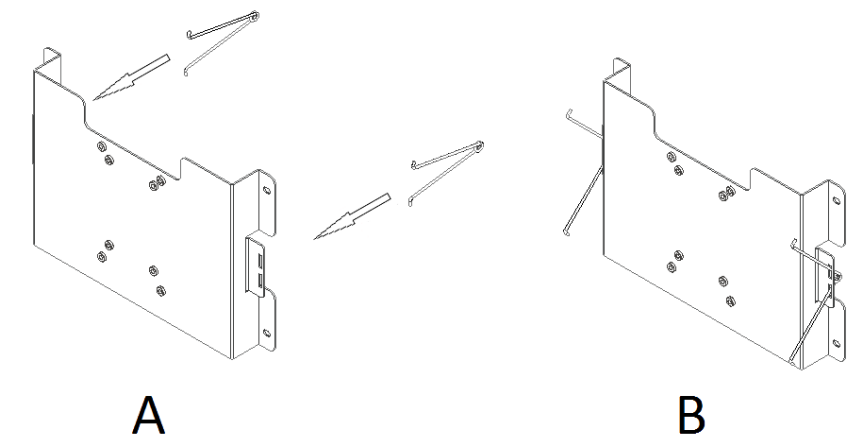

Figure 4 - Installation of Torsion Spring
Step 4 - Install the two torsion springs by: **A** pinching the tips together, and **B** inserting the tips into the rectangular openings on each end of the mounting bracket (Figure 4).